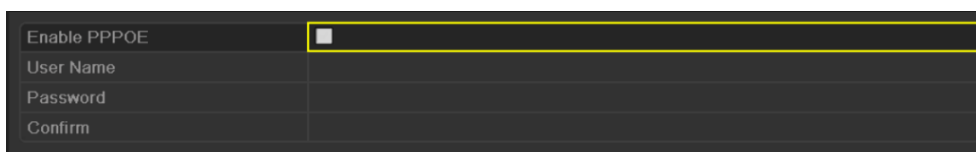

Figure 9. 2 PPPoE Settings Interface
2. Select the **PPPoE** tab to enter the PPPoE Settings interface, as shown in Figure 9. 2.